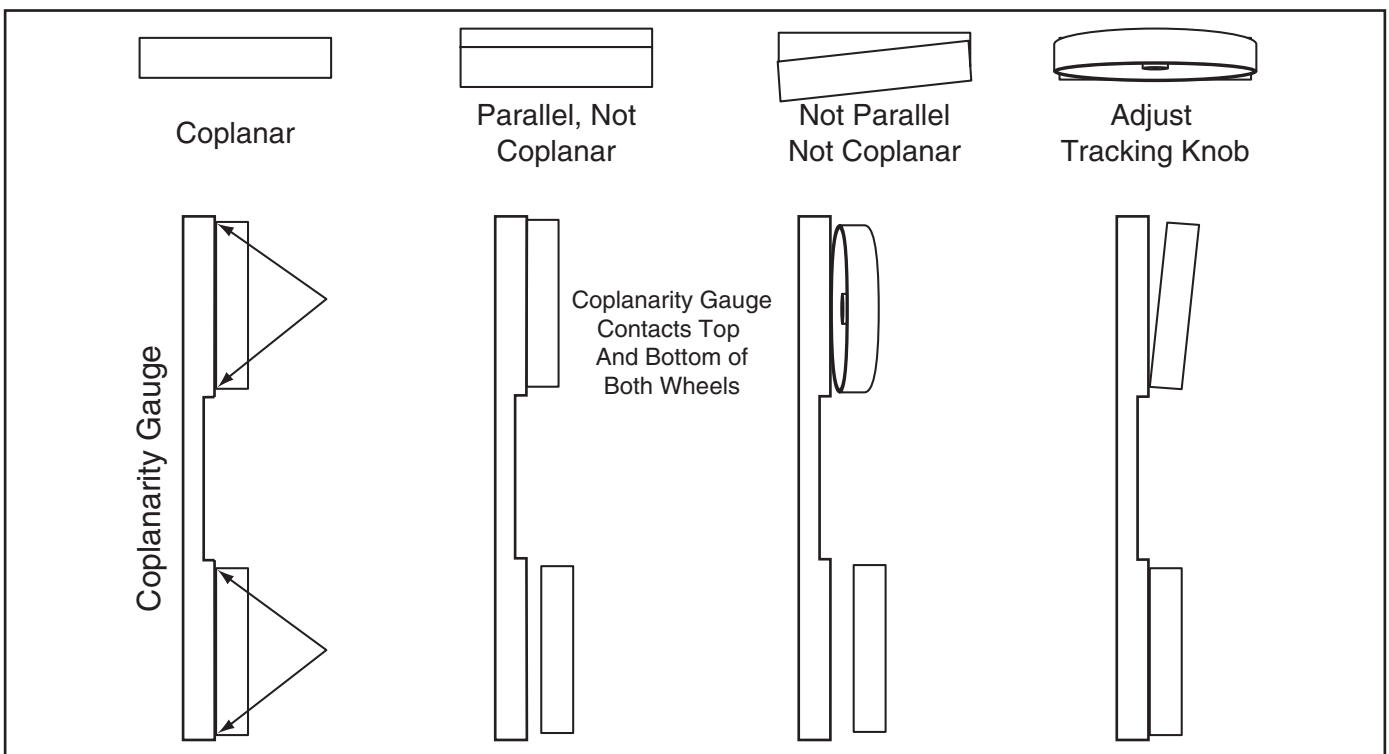

Figure 88. Coplanarity diagram.
8. **Figure 88** shows the positions of the wheels when coplanar. When your wheels are coplanar, readjust the guide blocks and rear support bearings, and replace the wheel covers.